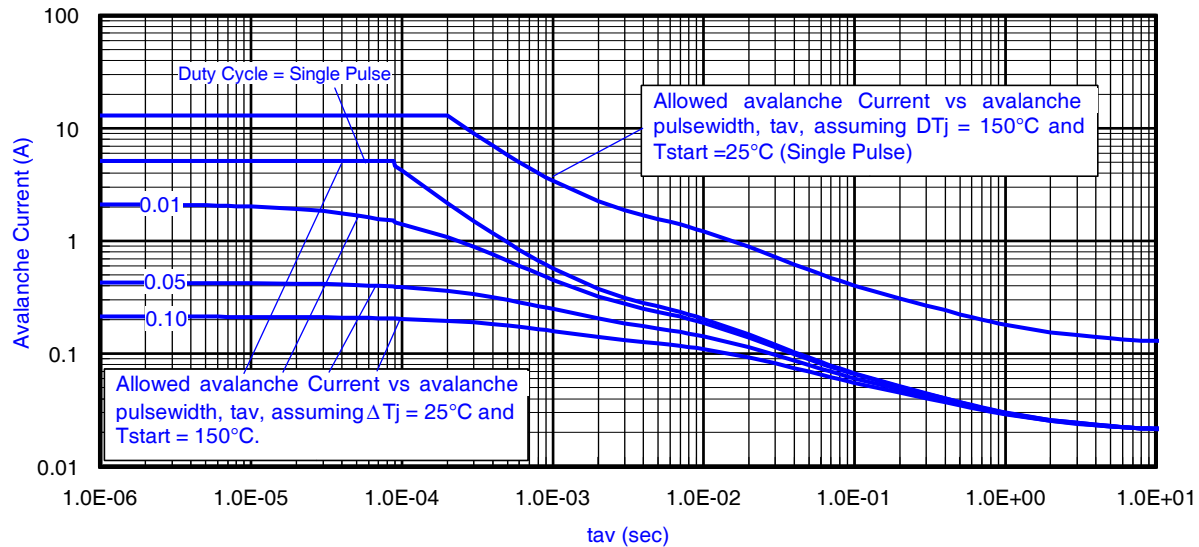

Fig 16. Typical Avalanche Current Vs. Pulsewidth
**Notes on Repetitive Avalanche Curves , Figures 16, 17:
7. ΔT = Allowable rise in junction temperature, not to exceed T_{jmax} (assumed as 25°C in Figure 16, 17).